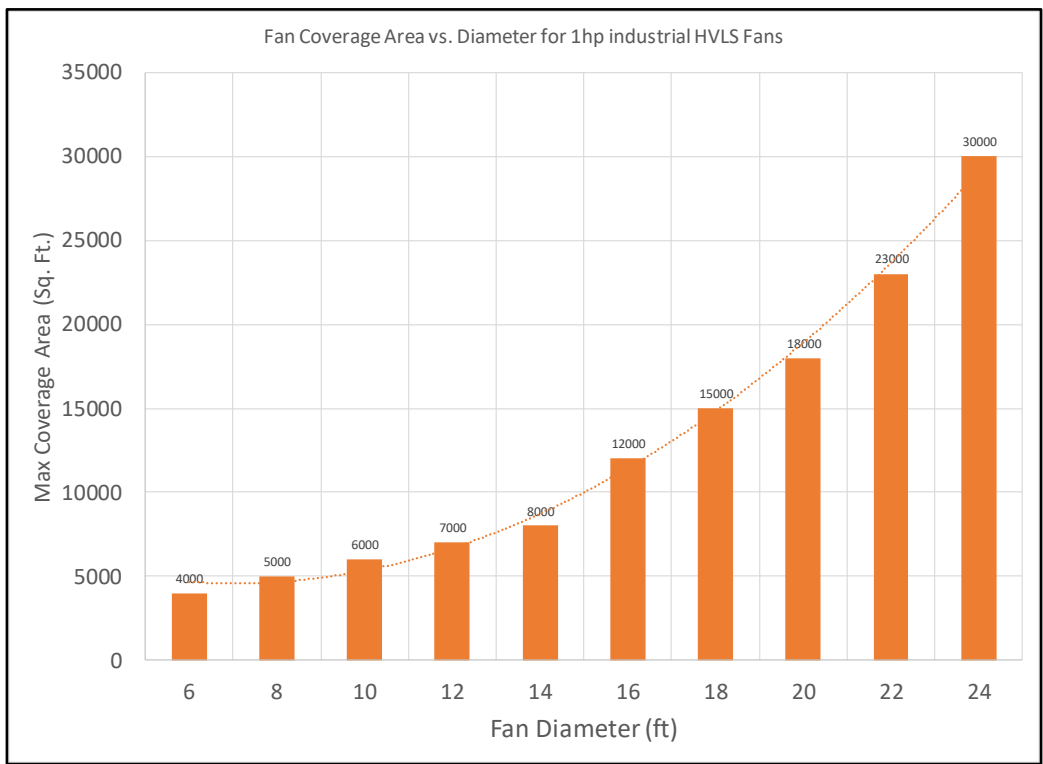

Figure 3: Max Coverage Area vs. Fan Diameter of Industrial HVLS Fans
Power consumption is a critical indicator of air flow. It can be easily measured by anyone and used to compare different fans. Manufacturers do not list the real power consumption on their data sheet. Hence an actual measurement is required. If you see figure 3 above, 24-ft fan produces twice as much air flow as the 12-ft fan (1200W vs. 650W).
**Step 6:** Measure the area to be covered. Let us say A1. Use the equation in figure 3 to obtain d3.
$d3 = \frac{-(-1199) + \sqrt{((-1199)^2 - 4 * 85 * (8800 - 10000))}}{(2 * 85)}$  using equation shown in figure 3.